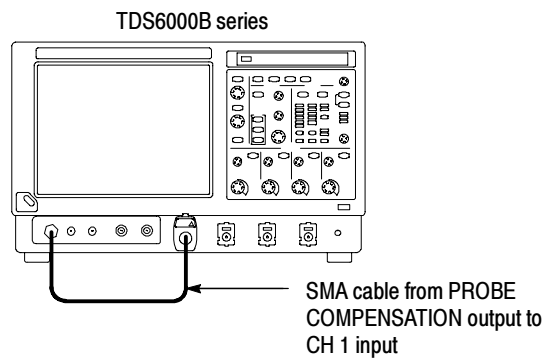

Figure 4-23: Initial test hookup
- Connect one of the SMA cables to **CH 1** through an adapter. See Figure 4-23.
- Connect the other end of the cable just installed to the **PROBE COMPENSATION** output. See Figure 4-23.